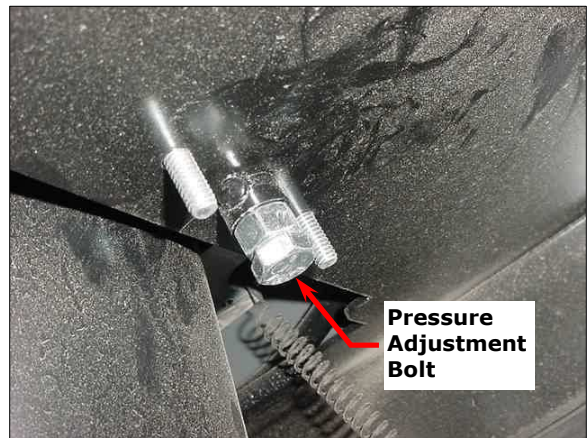

Figure 19 – Pressure Adjustment Bolt
- 14.** See Figure 19. Replace the existing pressure adjustment bolt with the new, 1.75"-long pressure adjustment bolt.